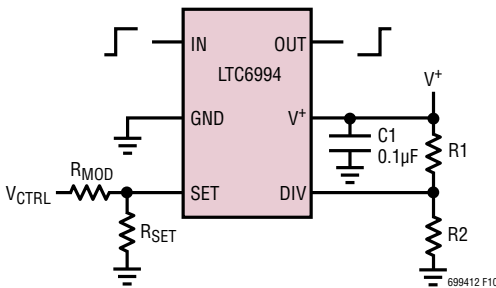
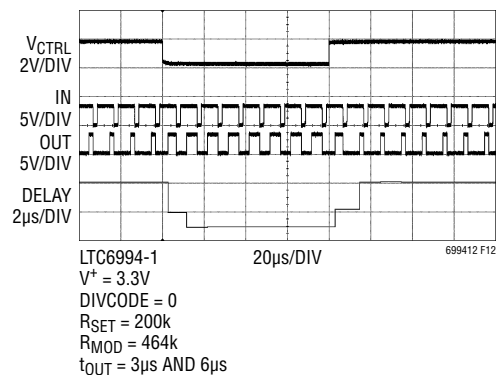

Figure 10. Voltage-Controlled Delay
Figure 12. Typical Settling Time
With one additional resistor, the LTC6994 output delay can be manipulated by an external voltage. As shown in Figure 10, voltage V_{CTRL} sources/sinks a current through R_{MOD} to vary the I_{SET} current, which in turn modulates the delay as described in Equation (3):
Following a $2\times$ or $0.5\times$ step change in I_{SET} , the output delay takes approximately six master clock cycles ($6 \cdot t_{MASTER}$) to settle to within 1% of the final value. An example is shown in Figure 12, using the circuit in Figure 10.